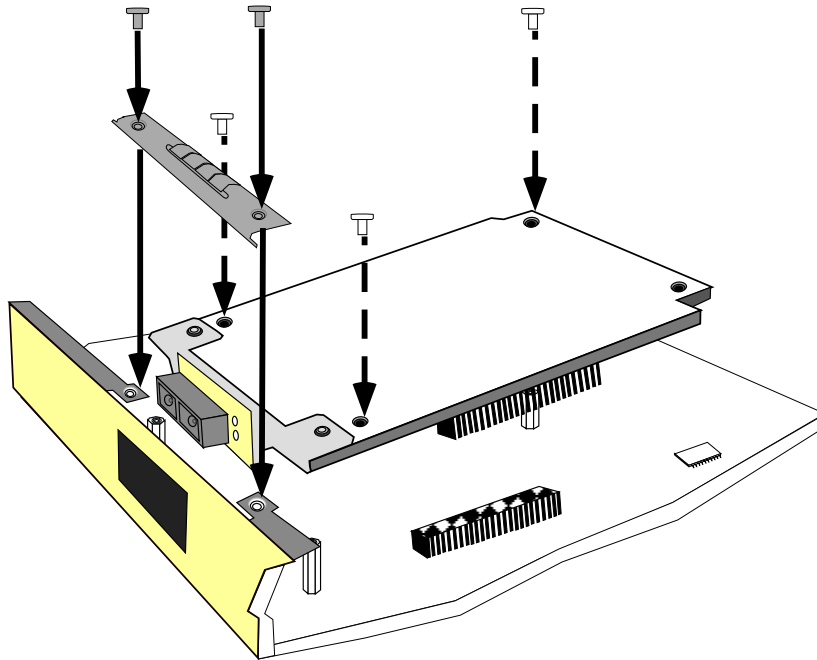

Figure 2-1. Installing an FEPIM
3. Install the FEPIM as shown in Figure 2-1. Ensure that the rear connector is seated firmly before tightening the three mounting screws.